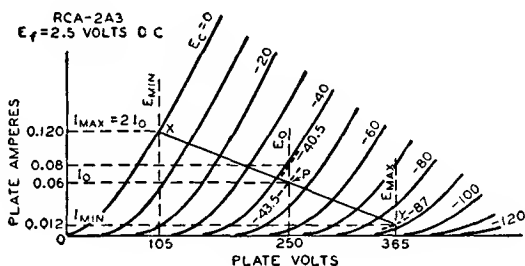

Fig. 20
Calculation of the power output of a triode used as a class A amplifier with either an output transformer or a choke having low dc resistance can be made without serious error from the plate family of curves by assuming a resistance load. The proper plate current, grid bias, optimum load resistance, and per-cent second-harmonic distortion can also be determined. The calculations are made graphically and are illustrated in Fig. 20 for given conditions. The procedure is as follows:
**Example:** Determine the load resistance, power output, and distortion of a triode having an amplification factor of 4.2, a plate-dissipation rating of 15 watts, and plate characteristics curves as shown in Fig. 20. The tube is to be operated at 250 volts on the plate.